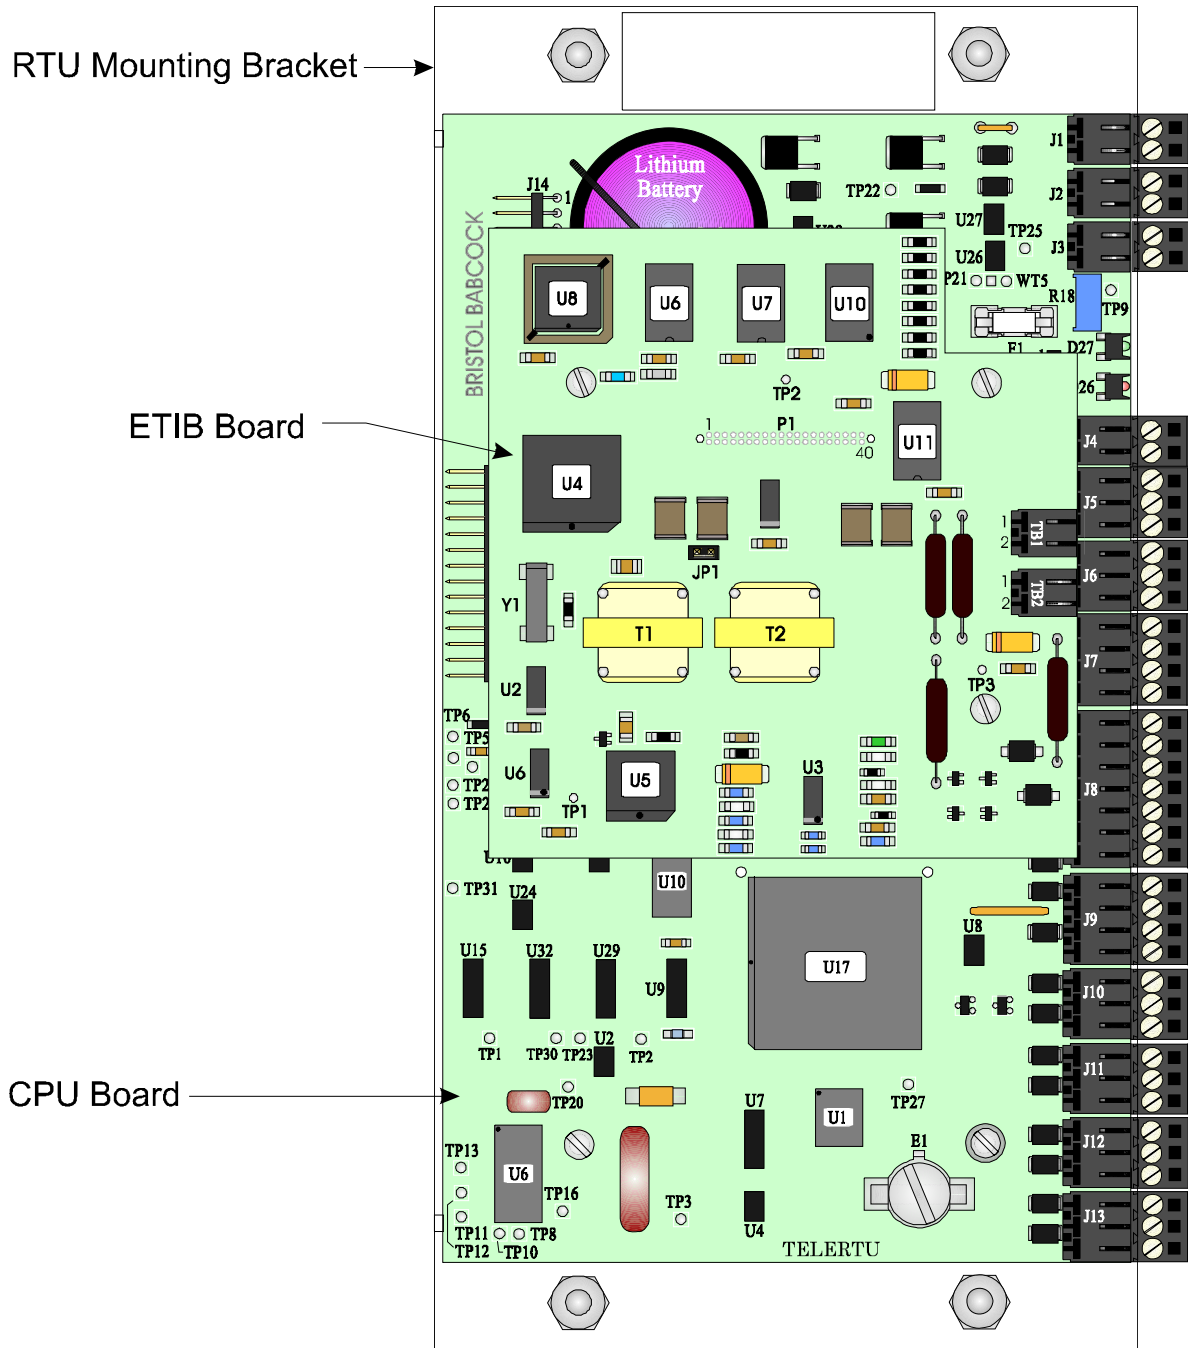

Figure 10 - 3530-35B (with ETIB Installed)
6. Secure the ETIB Board to the CPU Board by installing three (3) #4-40 x 1/4" SEM screws as illustrated in Figure 10.